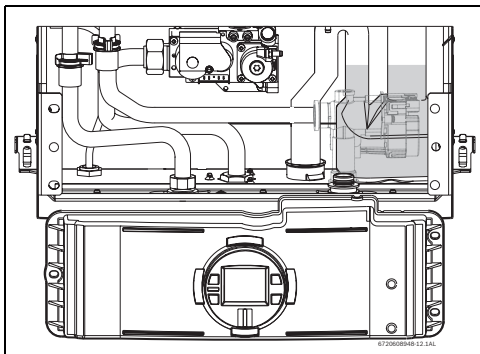

Fig. 63
- ▶ Put the control unit in service position by engaging its tabs with the holes in the bottom horizontal sheet metal (see Fig. 63).
- ▶ Check water level in the condensate trap (see Fig. 63).